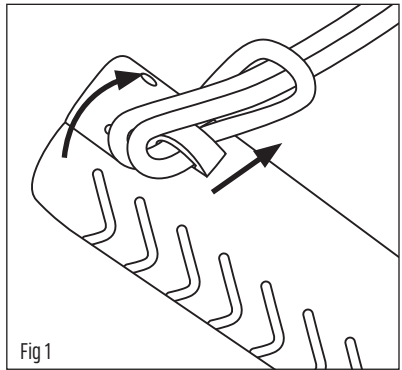

Fig 1
1. **ATTACHING LANYARD** - Insert the lanyard through the end opening of the LifeLite™ and loop through the opening and pull tight. (Fig 1)